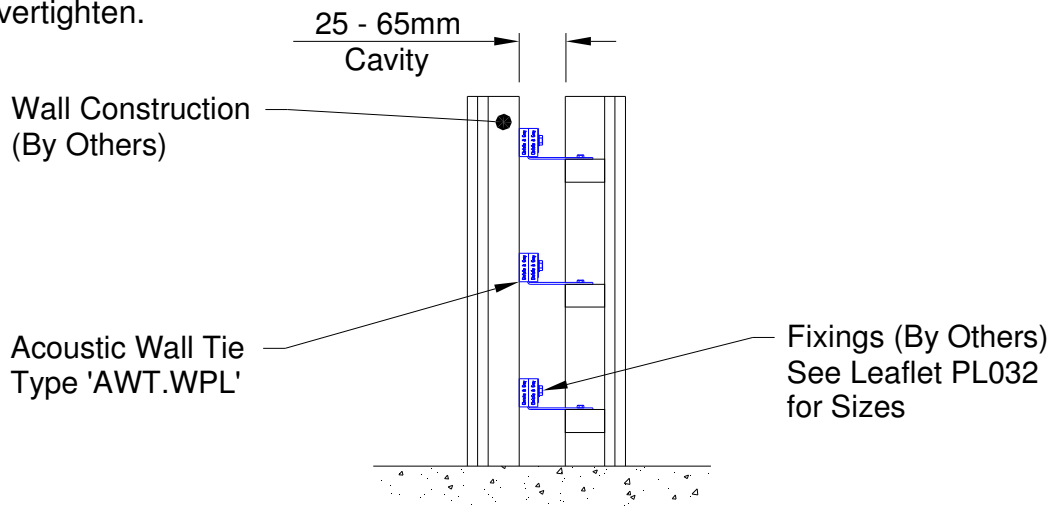

Figure 8
- g). Acoustic wall tie type AWT.WPL for wind post to internal partition walls with cavity widths of 25 to 65mm (See Figure 8). Note: Maximum 3mm compression of rubber components. Do **NOT** overtighten.